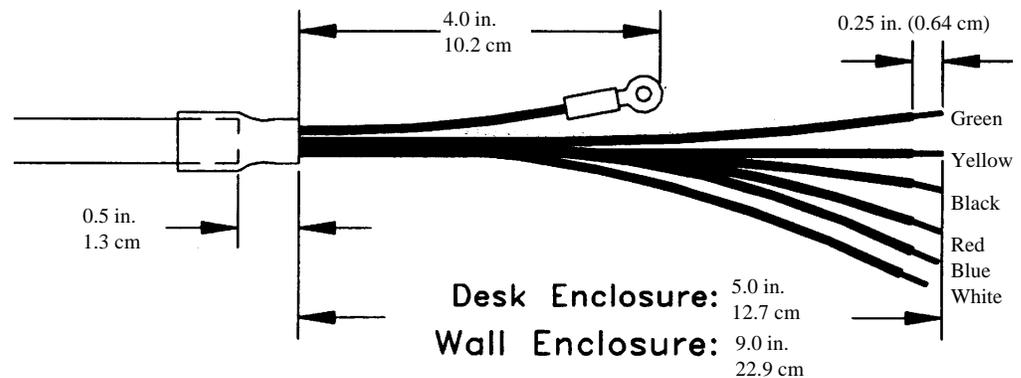

Figure 2-5 DigiTOL Load Cell Cable Preparation
1. Prepare the 8525 end of the load cell cable as shown below in Figure 2-5. If Mettler Toledo load cell cable is used, the two unused conductors (green and yellow) should be cut off at the J-box end and connected to the ground screw at the 8525 end. Strip the cable jacket and shield back 5 in. (12.7 cm) for the desk enclosure or 9 in. (22.7 cm) for the wall enclosure.